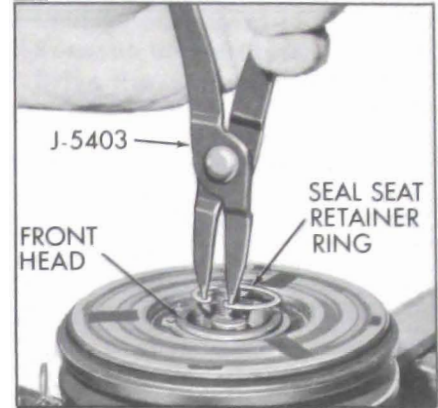

Figure 11-53—Removing or Installing Shaft Seal Seat Retaining Ring
5. Using No. 21 Truarc Pliers (J-5403) take out seal seat retainer ring (see Figure 11-53) from inside front head.
12. Using No. 21 Truarc Pliers (J-5403) reassemble seal seat retaining ring (flat side of retainer ring downward) into hub of front head and engage retainer ring in ring groove (see Figure 11-53). If necessary, retainer ring may be pushed into groove using sleeve